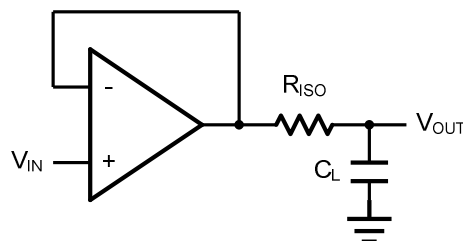
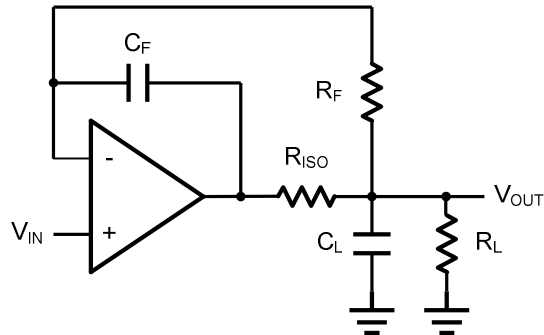

Figure 2. Indirectly Driving a Capacitive Load Using Isolation Resistor
Figure 3. Indirectly Driving a Capacitive Load with DC Accuracy
The LMV321 family is optimized for bandwidth and speed, not for driving capacitive loads. Output capacitance will create a pole in the amplifier's feedback path, leading to excessive peaking and potential oscillation. If dealing with load capacitance is a requirement of the application, the two strategies to consider are (1) using a small resistor in series with the amplifier's output and the load capacitance and (2) reducing the bandwidth of the amplifier's feedback loop by increasing the overall noise gain. Figure 2. shows a unity gain follower using the series resistor strategy. The resistor isolates the output from the capacitance and, more importantly, creates a zero in the feedback path that compensates for the pole created by the output capacitance.
The circuit in Figure 3 is an improvement to the one in Figure 2.  $R_{\text{F}}$  provides the DC accuracy by feed-forward the  $V_{\text{IN}}$  to  $R_{\text{L}}$ .  $C_{\text{F}}$